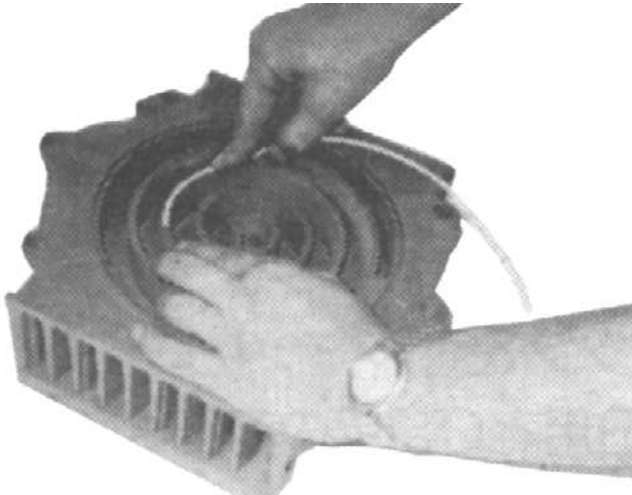

Figure 4. Removing the Tip Seals From the Groove.
- Remove the low pressure and high pressure tip seals from the fixed scroll set and the orbit scroll set. Using a ballpoint pen at the start will make it much easier (see Figure 4).
- k. Insert the seal so that the new low pressure tip seal will contact closely with the high pressure tip seal inside the scroll seal groove (see Figure 4).